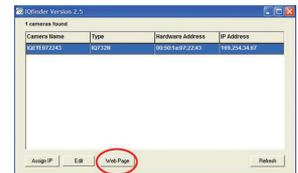
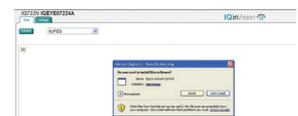

Figure 12.3
Figure 12.4
3. To view a camera, double-click a camera entry or highlight a camera in the list and click the "Web Page" button (Figure 12.3). The "Live" page will be displayed through the default browser (IE recommended). It is also possible to open Internet Explorer and enter the IP address of the IQeye camera in the address field of the browser. If prompted, install the Active X control (Figure 12.4).